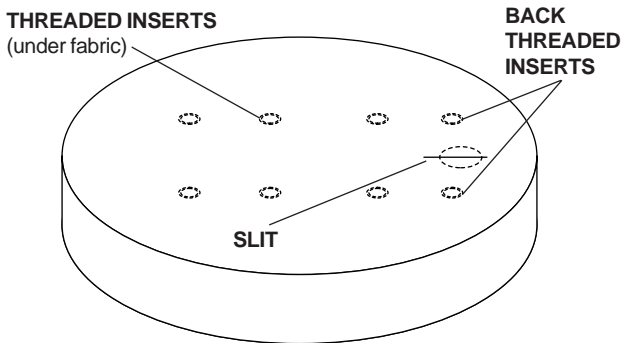

FIGURE 8
- Align the contoured round seat upholstery assembly with the base assembly. The base assembly on the Assistant's stools with standard backrests and Doctor's stools will have two (2) adjustment lever, however the installation is the same.
- Place the seat cushion on a firm, flat surface with the threaded inserts up (see Figure 8). The threaded inserts that are closest to the edge of the cushion, near the slit in the bottom of the seat, are the back inserts of the seat cushion.